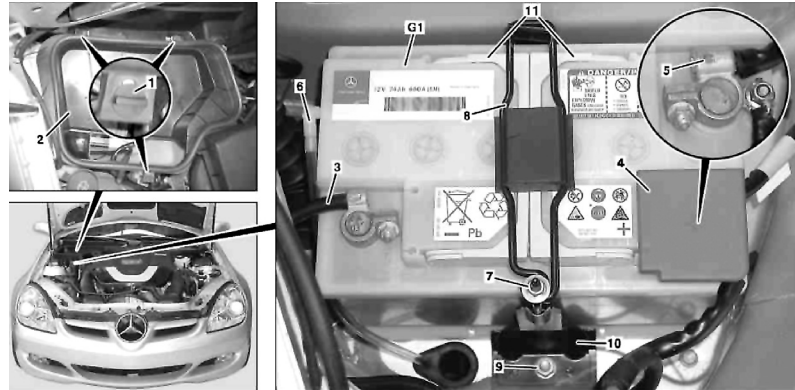

Fig. 1 Battery removal
3. Open quick-release fittings (1), and remove air duct (2), **Fig. 1**.
4. Loosen clamp nut, and disconnect ground line (3) from terminal of battery, **Fig. 1**.
5. Remove positive terminal cover (4), **Fig. 1**.
6. Disconnect positive line (5) from battery (G1), **Fig. 1**.
7. Pull vent hose (6) off battery (G1), **Fig. 1**.
8. Unscrew nut (7), and remove retaining bracket (8), **Fig. 1**.
9. Unscrew nut (9), and remove bracket (10), **Fig. 1**.
10. Remove battery (G1) from engine compartment. Use supporting bracket (11), **Fig. 1**.
2. Install bracket (10), **Fig. 1**.
3. Install retaining bracket (8), **Fig. 1**.